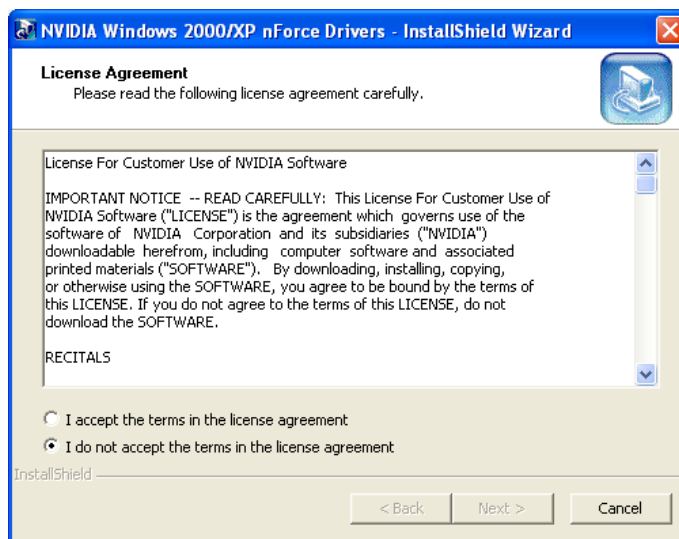

Figure 8-7: Chipset Driver Installation License Agreement
Step 8: The license agreement in **Figure 8-7** appears.